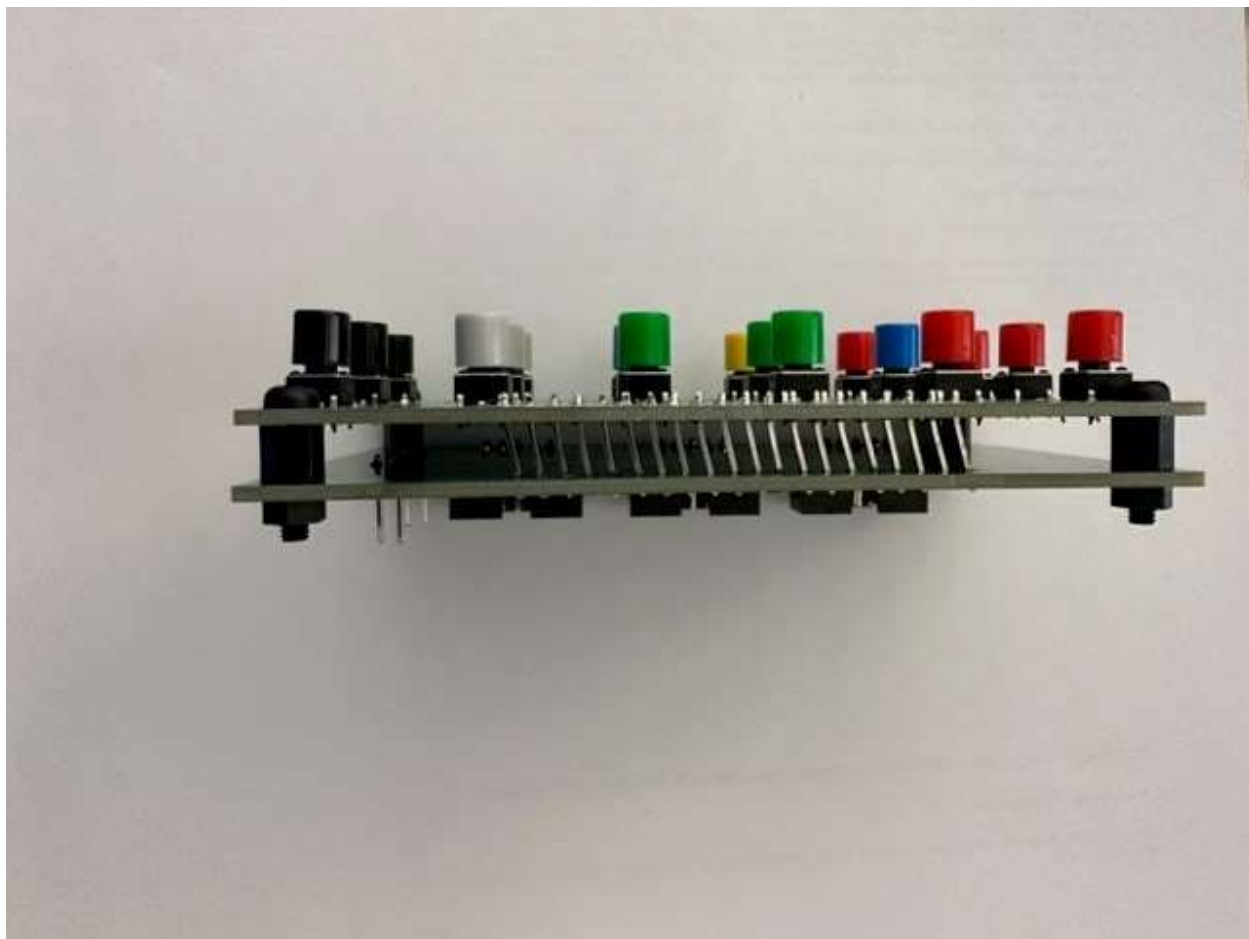

Figure 2. Boards Together. Note Slight Pin Offset in V012.5.
11. If the holes are offset a little such that the IDC header won't work, put the remaining two screws into the corner spacers and use bus wire to connect the holes from the boards together. V012.5 boards must be done this way. See Figure 2.